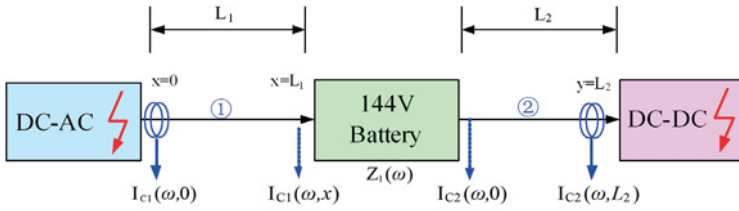

Figure 5: Calculation model of EMI coupling
After comparing the interference spectrums of the DC/DC and DC/AC power lines, we conclude that their characteristics are similar in idling and electric-assist modes. Additionally, when the frequency is above 4MHz, interference levels in the four operating modes are nearly the same, which shows that one part of the interference on the positive pole of the DC/DC power line is produced by the DC/AC power line, coupled by the traction battery – i.e., the traction battery is the conduction path. A way to calculate this coupling interference is shown in Figure 5.
In Figure 5, the interference current, which propagates from the DC/AC converter to the DC/DC converter along the power line paths ① and ②, is influenced by distance and frequency.
Therefore, the interference characteristics can be represented by functions $D_1(\omega, x)$ and $D_1(\omega, y)$ respectively, where $\omega = 2\pi f$, x changes from 0 to L_1 , and y changes from 0 to L_2 , as shown in Figure 5.
The interference current produced by the DC/AC converter is $I_{C1}(\omega, 0)$, measured at the DC/AC port ($x=0$). The interference current $I_{C1}(\omega, x)$ that propagates down the line from the DC/AC converter to the 144V battery (see Figure 5) can be calculated by a transfer function such as:
where $D_1(\omega)$ is the propagation characteristic of the 144V battery in Figure 5. Combining Equations 2 and 3, we can express the $I_{C2}(\omega, 0)$ as: